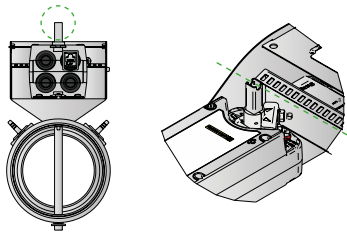

Figure 25. Damper blade position "Normally closed".
3. Make sure that the position of the damper blade is correct, see figure 25 or 26. **NOTE!** The spindle clamp is always fitted in the direction as set out above on the circular damper.